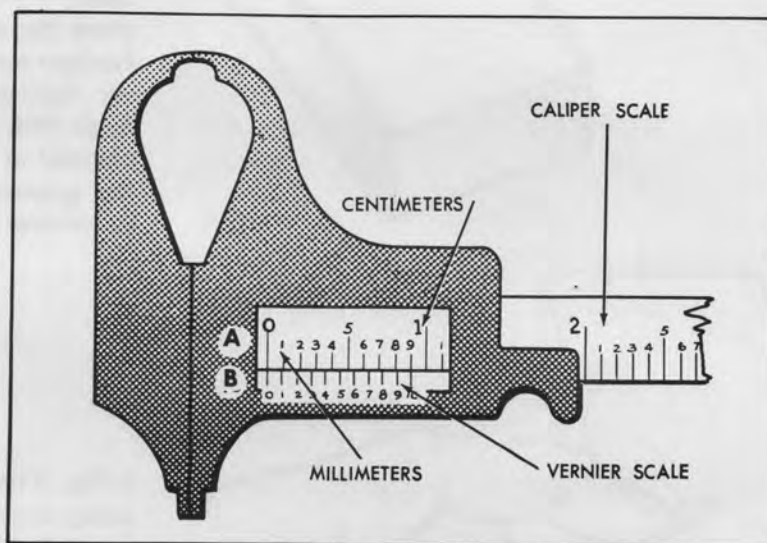

Fig. 4
It will be seen from Fig. 4 that there are two scales: the upper or millimeter scale (A), on the fixed bar of the gauge and the lower or vernier scale (B), which is on the sliding head. Observation will show that nine divisions on the millimeter scale have been divided into ten equal parts on the vernier scale. Therefore when a division on the vernier scale lines up with a line on the millimeter scale, it indicates that the vernier has moved in tenths of a millimeter to correspond with the matching number.